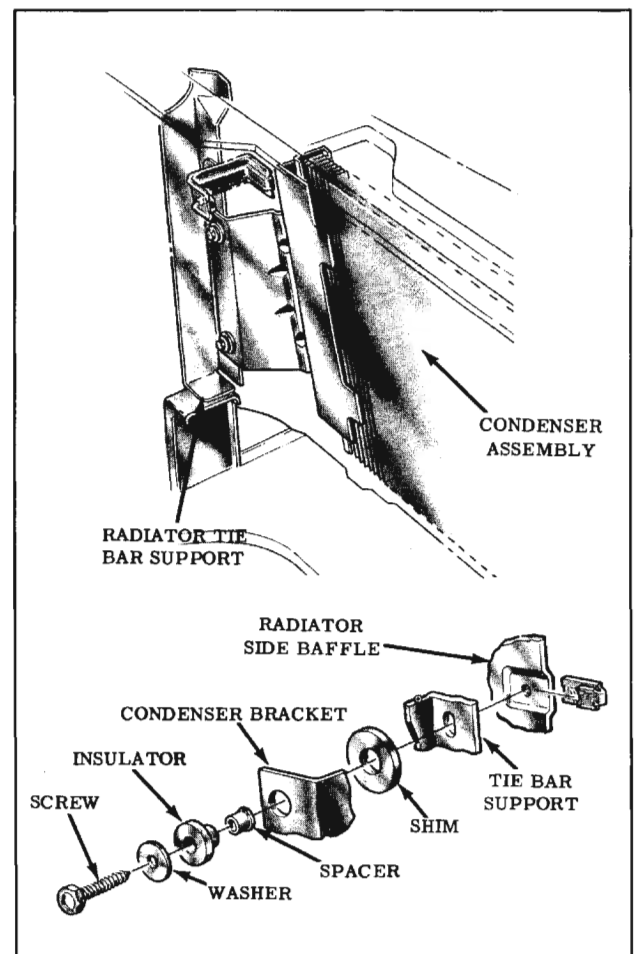

Fig. 15-134 Condenser Attachment
8. Remove condenser bracket to radiator tie-bar attaching parts and remove condenser. (Fig. 15-134)
1. Position condenser to tie-bars and secure with attaching parts as shown in inset of Fig. 15-134.